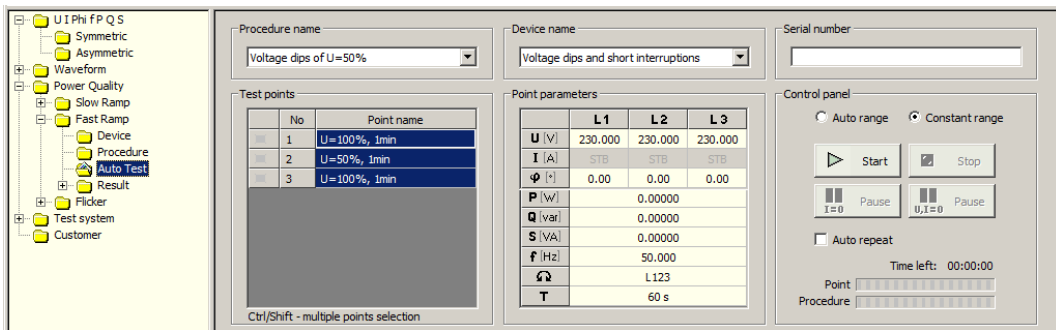

Fig.3.6. Autotest function with finished procedure
- d) wait until procedure is not finished (Fig.3.6).